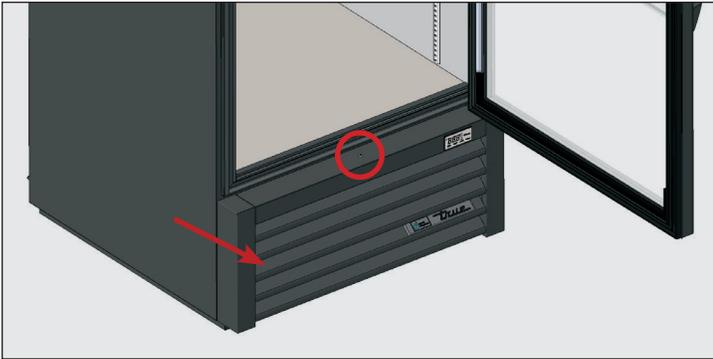

Fig. 1. Front louver grill screw location. Carefully remove the grill.
2. Remove the front louvered grill from the appliance. See fig. 1.